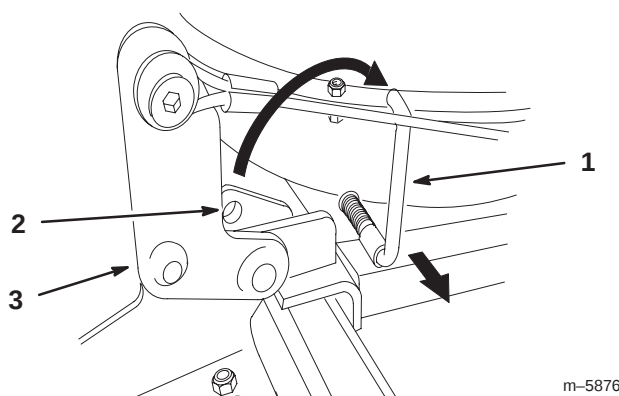

Figure 27
- With the bagger open, pull out the holding pin and insert into the hole in the hinge (Fig. 27).